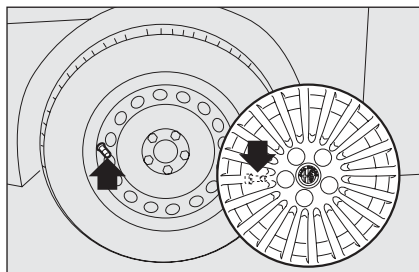

fig. 12
- ☐ Place the wheel cap on the wheel rim making symbol , (marked inside the wheel cap), coincide with the inflation valve **fig. 12**;